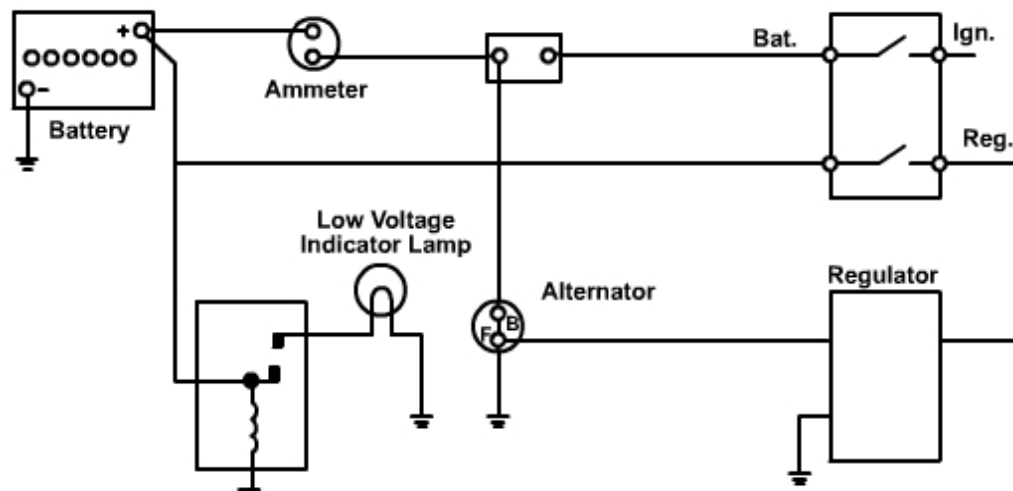

Figure 8-49 — Low voltage warning lamp schematic.
- Low voltage warning lamp is set up to warn the operator whenever the electrical system voltage has dropped below the normal operational range (*Figure 8-49*).